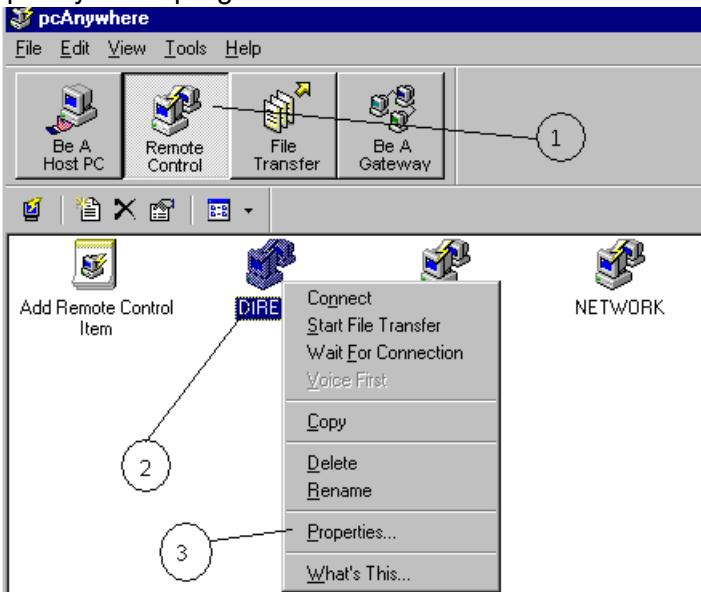

Fig. 1
- Select the Remote Control button (1/Fig. 1).
- Place the cursor above the "Direct" icon (2/Fig. 1) and press the right mouse button. The menu (3/Fig. 1) appears.